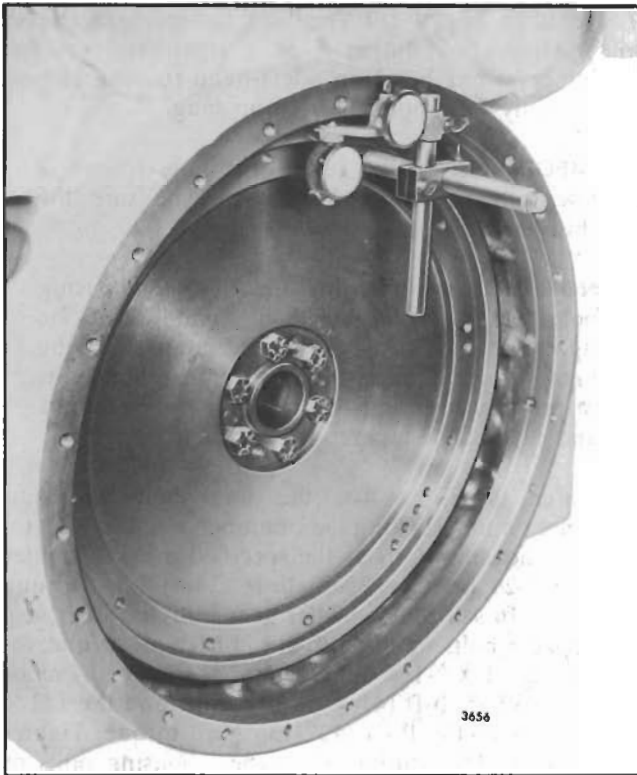

Fig. 6 - Checking Flywheel Housing Concentricity
- Refer to Fig. 6 and thread the base post J 9737-3 tightly into one of the tapped holes in the flywheel. Then assemble the dial indicators on the base post with the attaching parts provided in the tool set.